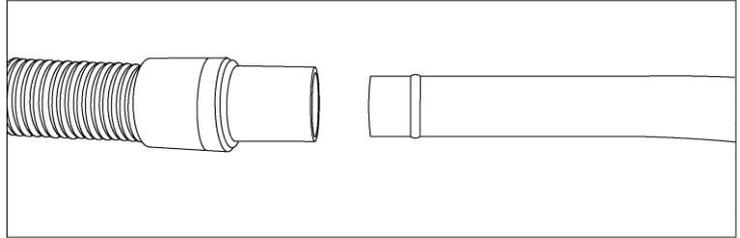

Fig. 8
- To connect the hose and attachment wand, slide the hose over the hose end wand attachment and over the bump by approx. ½". (Fig. 8)